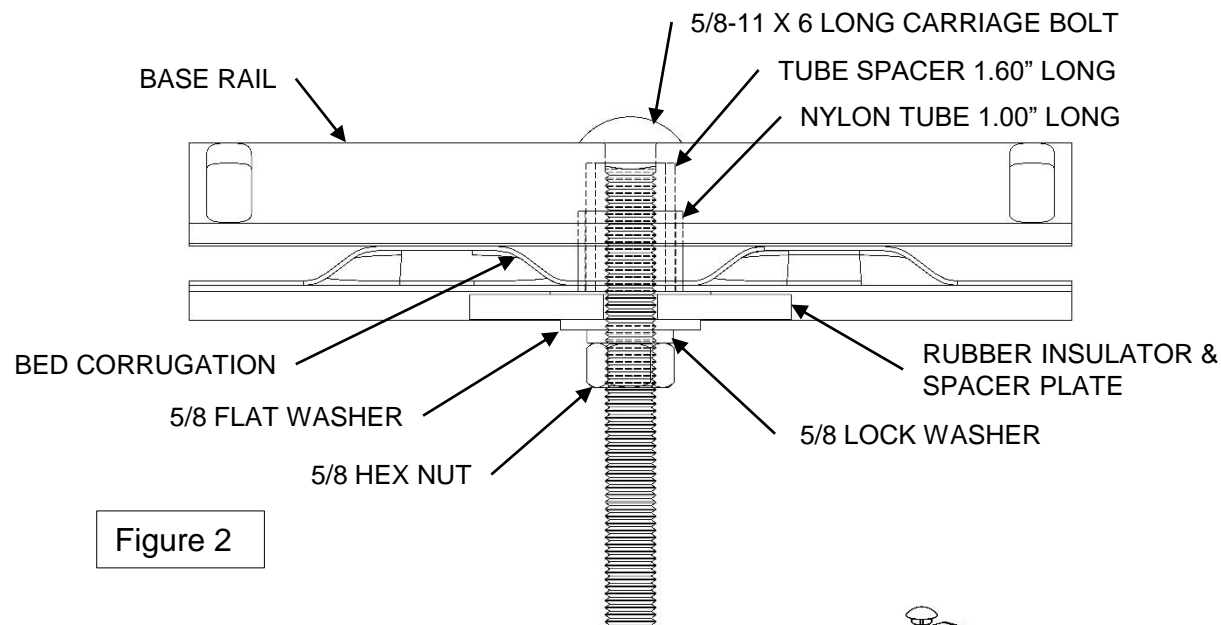
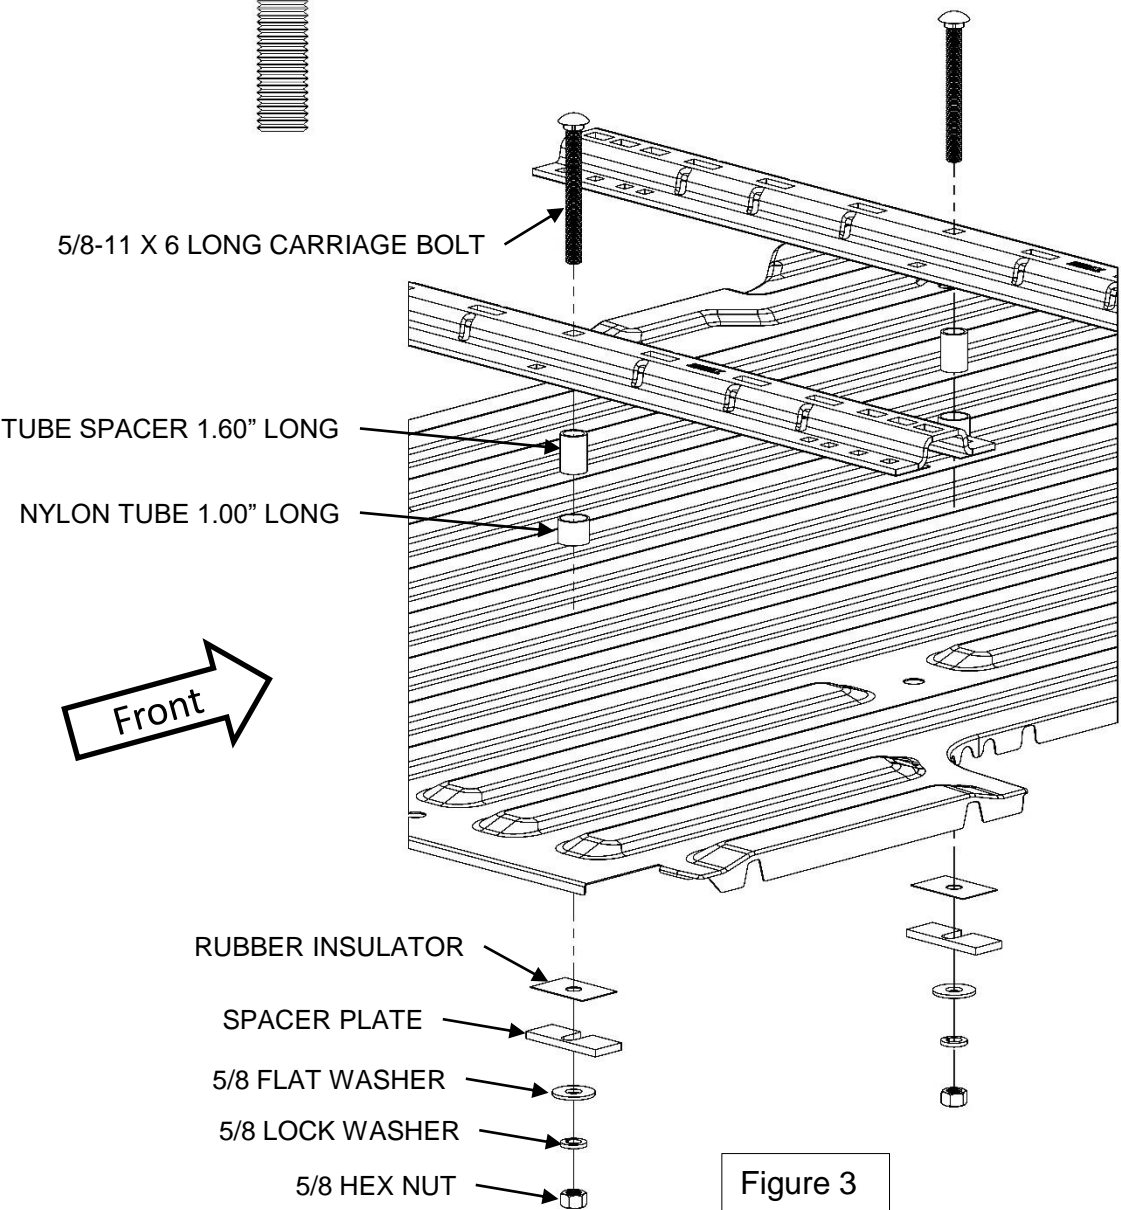

Figure 2
Figure 3
- 5) From underneath of vehicle install tube spacers, nylon tube, rubber insulator, spacer plate, flat washer, lock washer and nut. See FIG. 2 & FIG. 3.